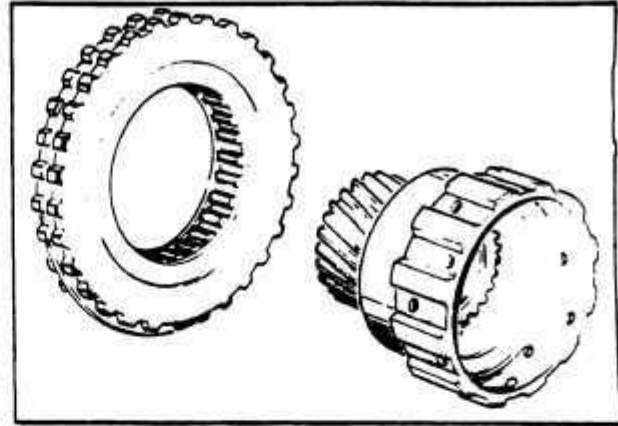

Fig. 52 INPUT GEAR ROLLER CLUTCH ASSEMBLY
3. Separate the input gear hub from the roller clutch and outer hub assembly. *Fig. 52*